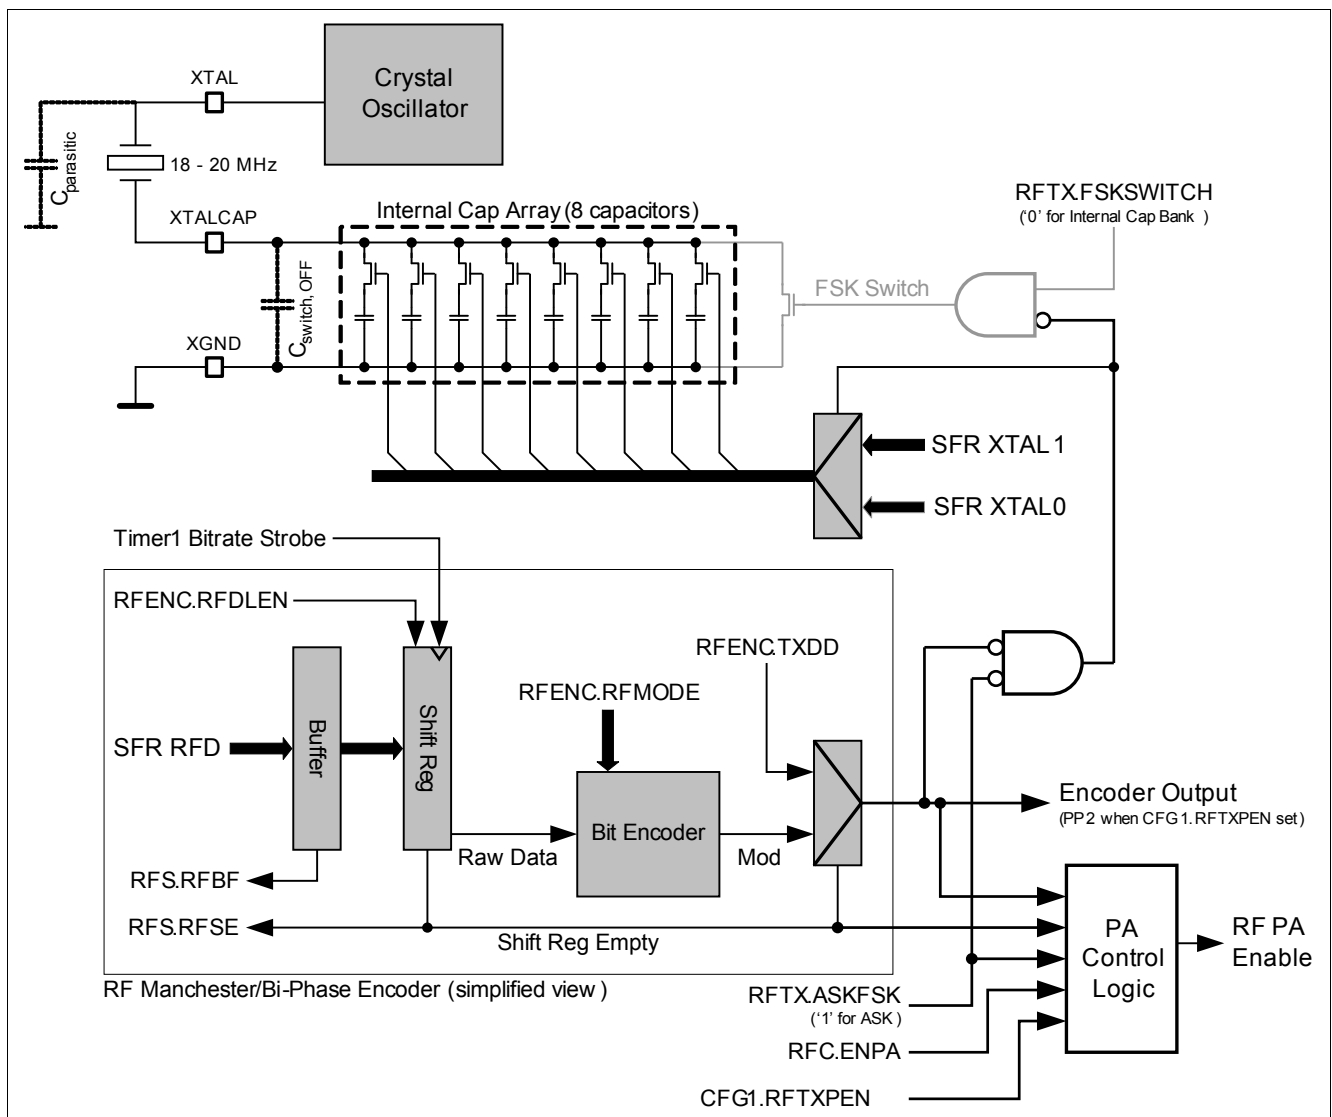
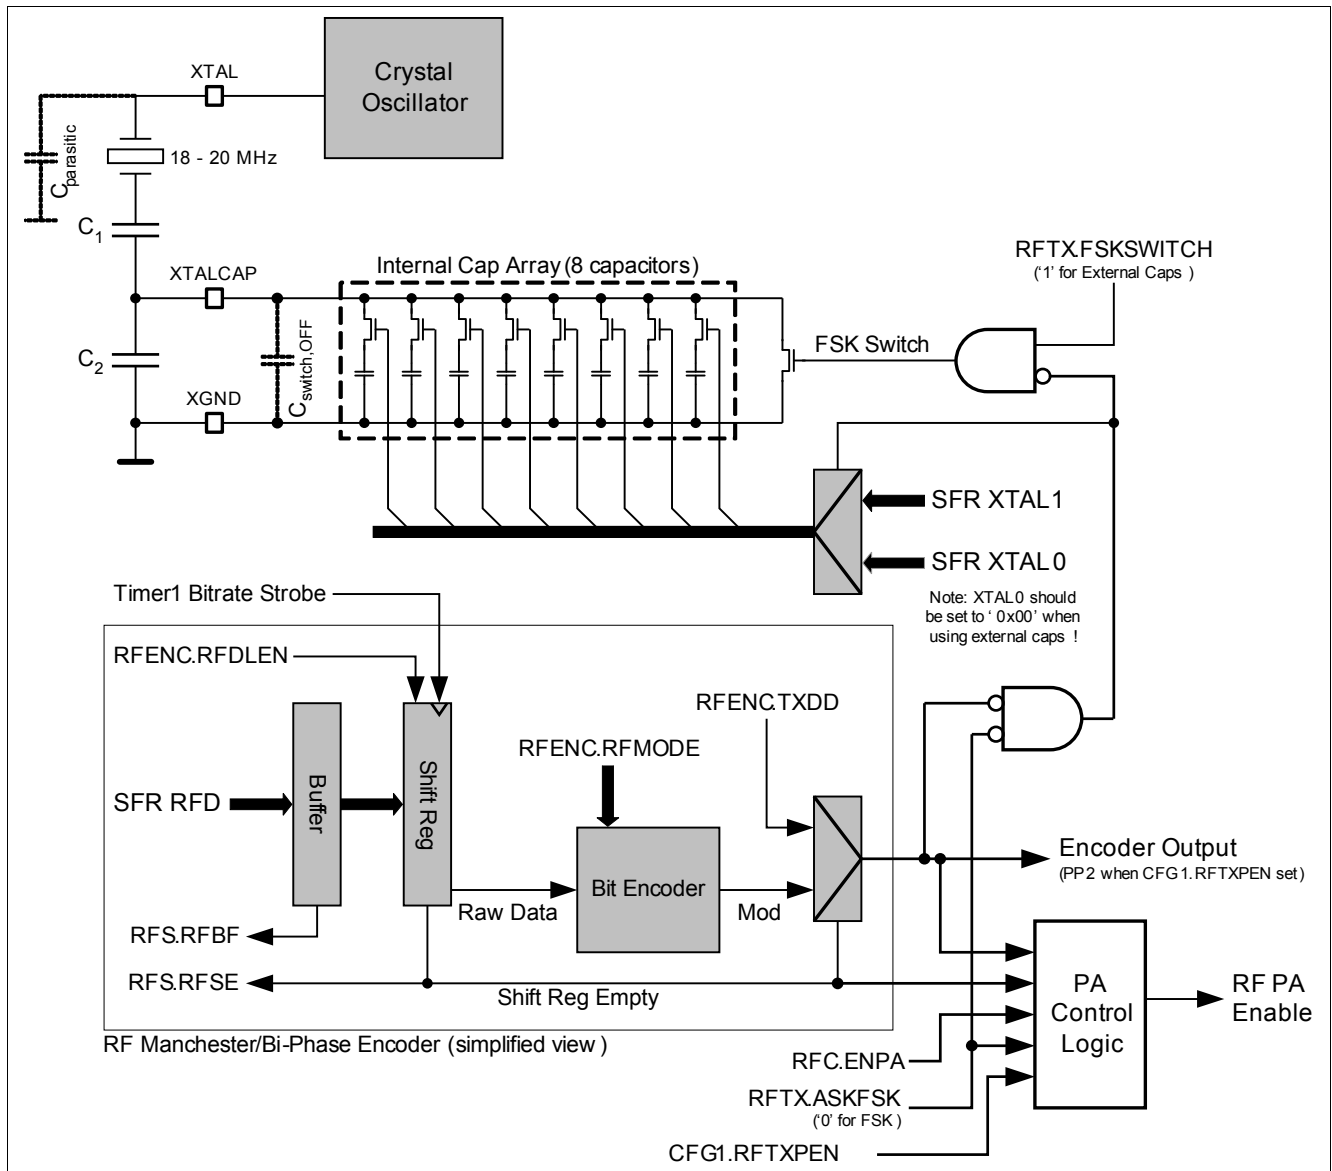

Figure 11 FSK using the internal capacitors
Figure 13 FSK using only external capacitors
Note: $C_{parasitic}$ used in Figure 11, Figure 13 and Figure 14 is the overall parasitic capacitance between the pins XGND and XCAP (switch, bond wires, pad parasitics,...). The formulas for calculating the resulting capacitance for ASK/FSK (C_{ASK} , $C_{FSKHIGH}$, C_{FSKLOW}) only take into account the dominating factor of $C_{Switch, OFF}$. Specification for the parasitic capacitance can be found in Table 42 "Crystal Oscillator, fCrystal = 18 MHz...20 MHz" on Page 160.
- In the configuration shown in **Figure 11** the internal capacitors are used. The desired capacitor values must be selected by using SFR XTAL1 and SFR XTAL0. The exact values used should be verified by module level testing.
- In the configuration shown in **Figure 13** the FSK switch is used in conjunction with external capacitors. Guidelines for determining the external capacitor values are **Equation (6)** and **Equation (7)**. The exact values used should be verified by module level testing.